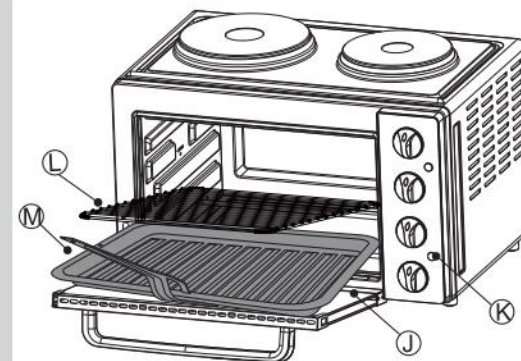
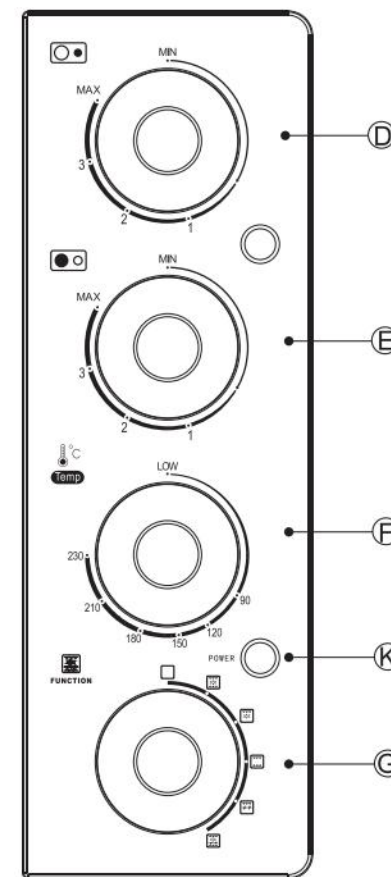
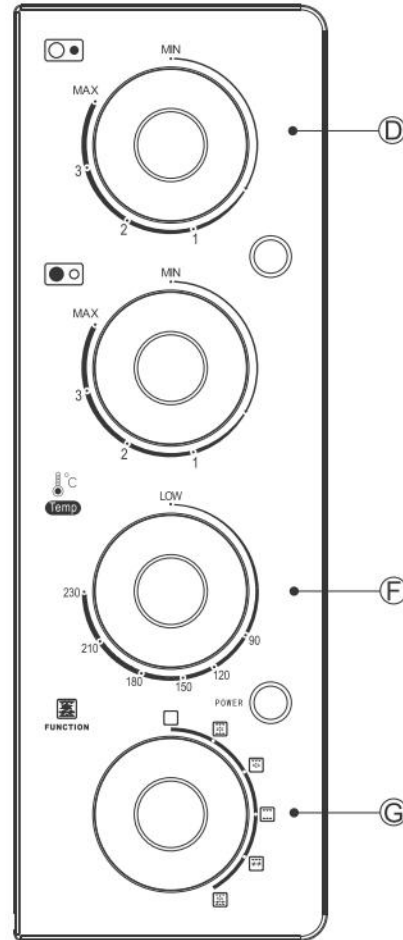

fig. 3
fig. 4
fig. 5
2. The Oven Power Indicator (K) will light up.
**See fig. 4.**
3. Place the food on Grill Rack (L) or Baking Tray (M) and close the Glass Door (J).
**See fig. 3.**
4. Set the Oven Temperature dial (F) to desired temperature.
5. Set the Function dial (G) to desired position:
- a. Use accessory handle (N) or oven gloves to remove hot food to avoid burning hands.
- b. Turn the Function dial (G) to "OFF" position "□" and the Oven Temperature dial (F) to "LOW" position.
3. Remove the Baking Tray (M) from the oven and Grill Rack (L) if not required.
4. Set the temperature of the oven by turning the Oven Temperature dial (F) to maximum .
**See fig. 5.**